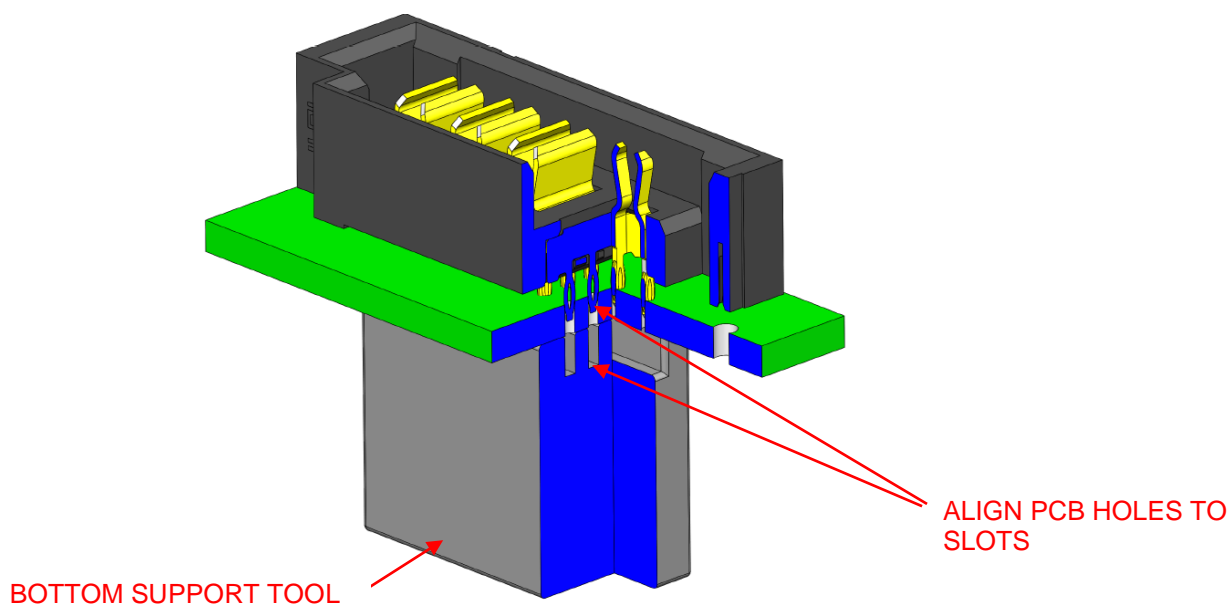

Figure 2: Align & Seat PCB to Bottom Support Tool
- Using a bottom support tool (CAT-UPR-XX), seat the connector to the bottom support tool. Align the PCB hole to the slot of the tool. See figure 2.